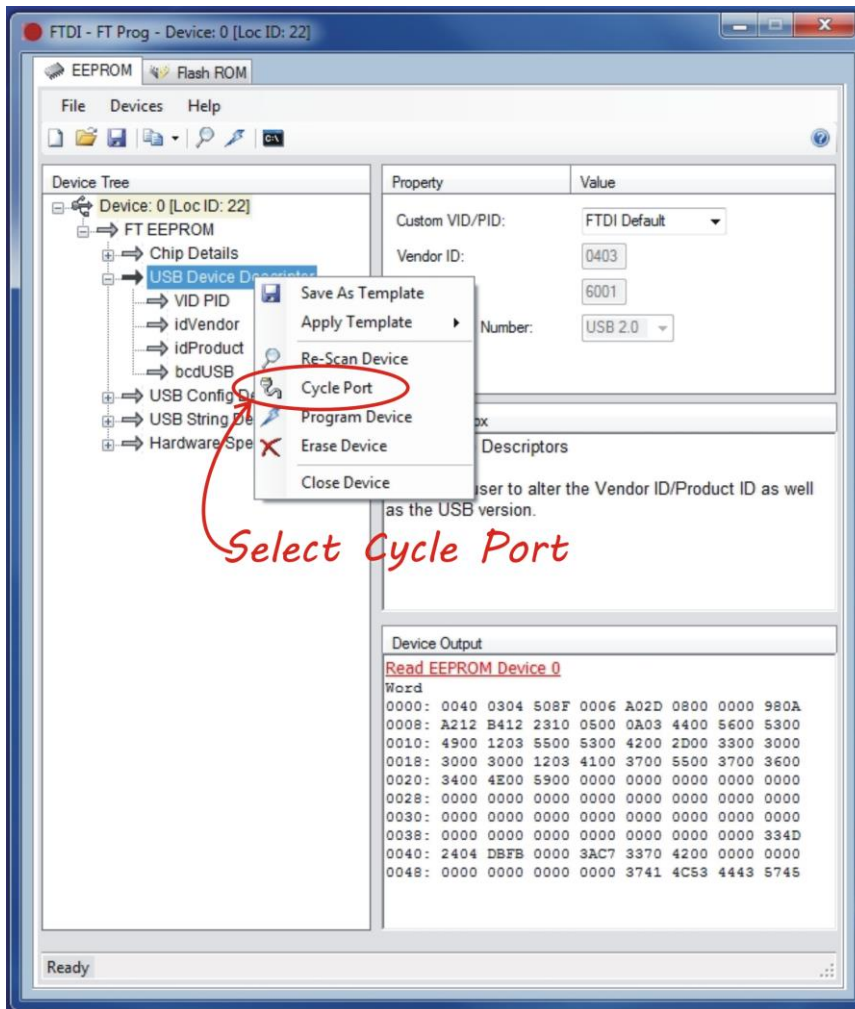

Figure 30 Cycle Port
Step 8. Verify the USB-3000™ now has the default FTDI Product ID; by right clicking on the USB Device Descriptor and Click on select the "Cycle Port" button. See Figure 30 Cycle Port This will to re-enumerate the USB-3000™ device after the EEPROM has been reprogrammed. This is useful because the device only reads the EEPROM when it is enumerated on USB, so it forces the device to use the new EEPROM contents.